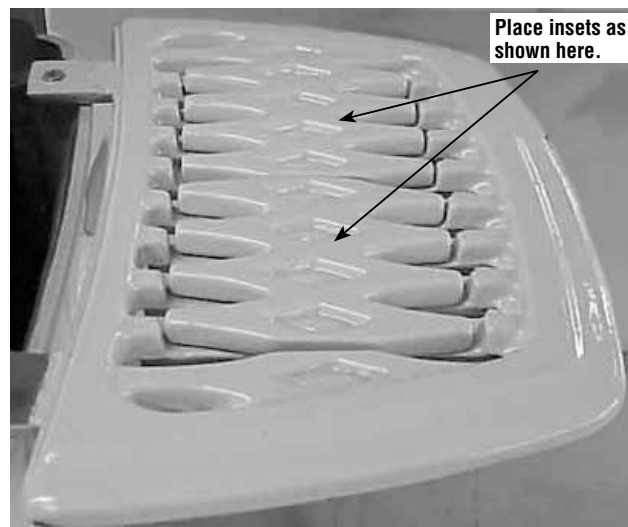

Figure 44 - Install Insets
4. Place the insets (4 ea. for the CI1500 series or 6 ea. for the CI2500 series) into the recessed areas on both warming shelves as shown in **Figures 44 and 45**. **Note: Common ceramic tiles (4-1/4" square) can be used in place of insets on the warming shelves (available at most home improvement stores).**